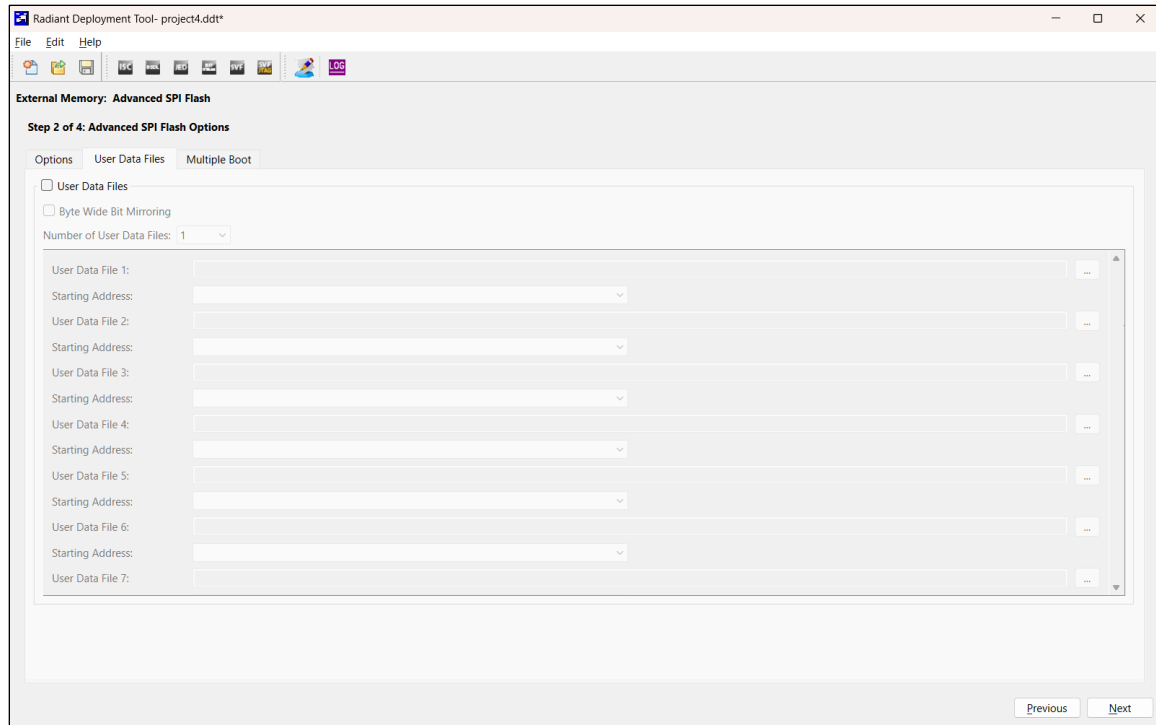

Figure 7.18. Advanced SPI Flash Options Window – User Data Files Tab
- (Optional) If programming the flash memory with user data is required, click the **User Data Files** tab (Figure 7.18).